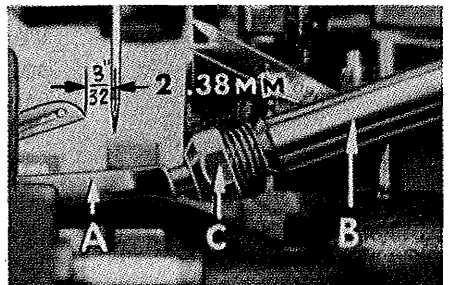

Fig. 6
At this point, insert lower looper (A, Fig. 6) on Styles 39500 QG, SD and TC
into bar (B). With lower looper or spreader at left end of its stroke, set looper or spreader point $3/32$ inch (2.38 mm) from centerline of needle (Fig. 6 or 6A) using looper gauge No. 21225- $3/32$. Do not have lower looper or spreader deflecting needle. Tighten nut (C). Now assemble differential (front) feed dog.